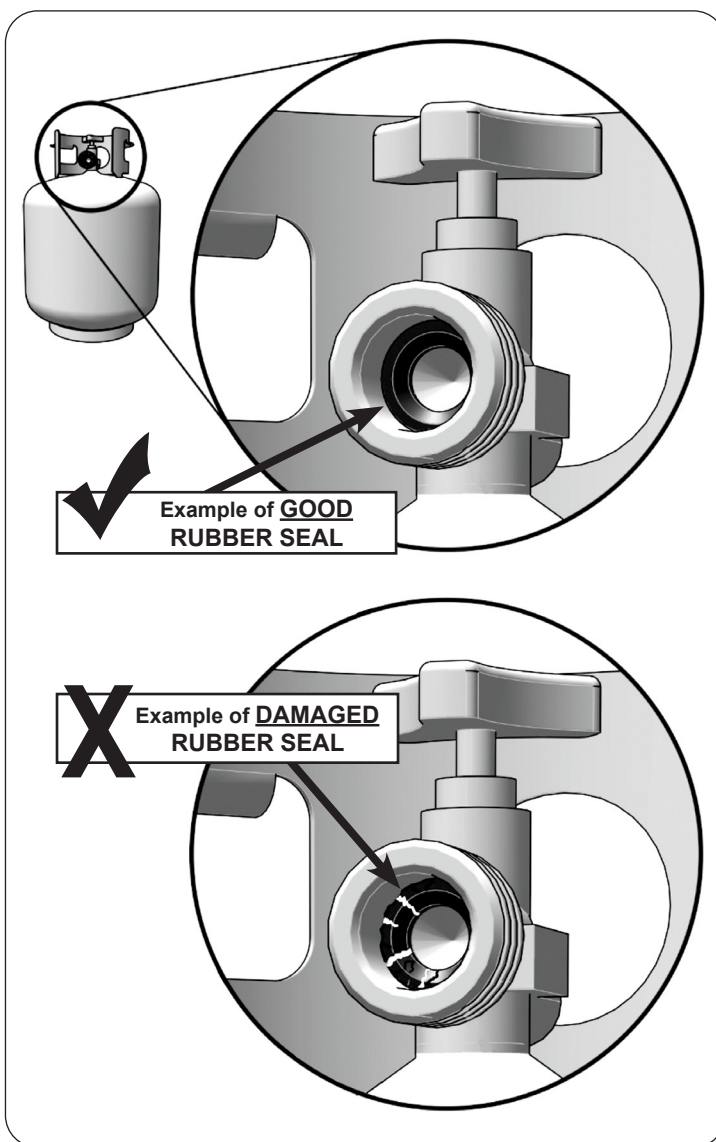

Fig. 9-1 Inspect rubber seal
- D.** **CGA 791 connections on LP gas cylinders:** The cylinder face elastomeric face seal element on these devices could, over time, show marked and visible damage or deterioration that might cause a leak even with the connection tightened. A visual inspection for the seal must be carried out every time a LP gas cylinder is replaced or refilled. Any LP gas cylinder showing signs of damage or deterioration as illustrated in Fig. 9-1, including visible cracks and pitting, must be replaced.